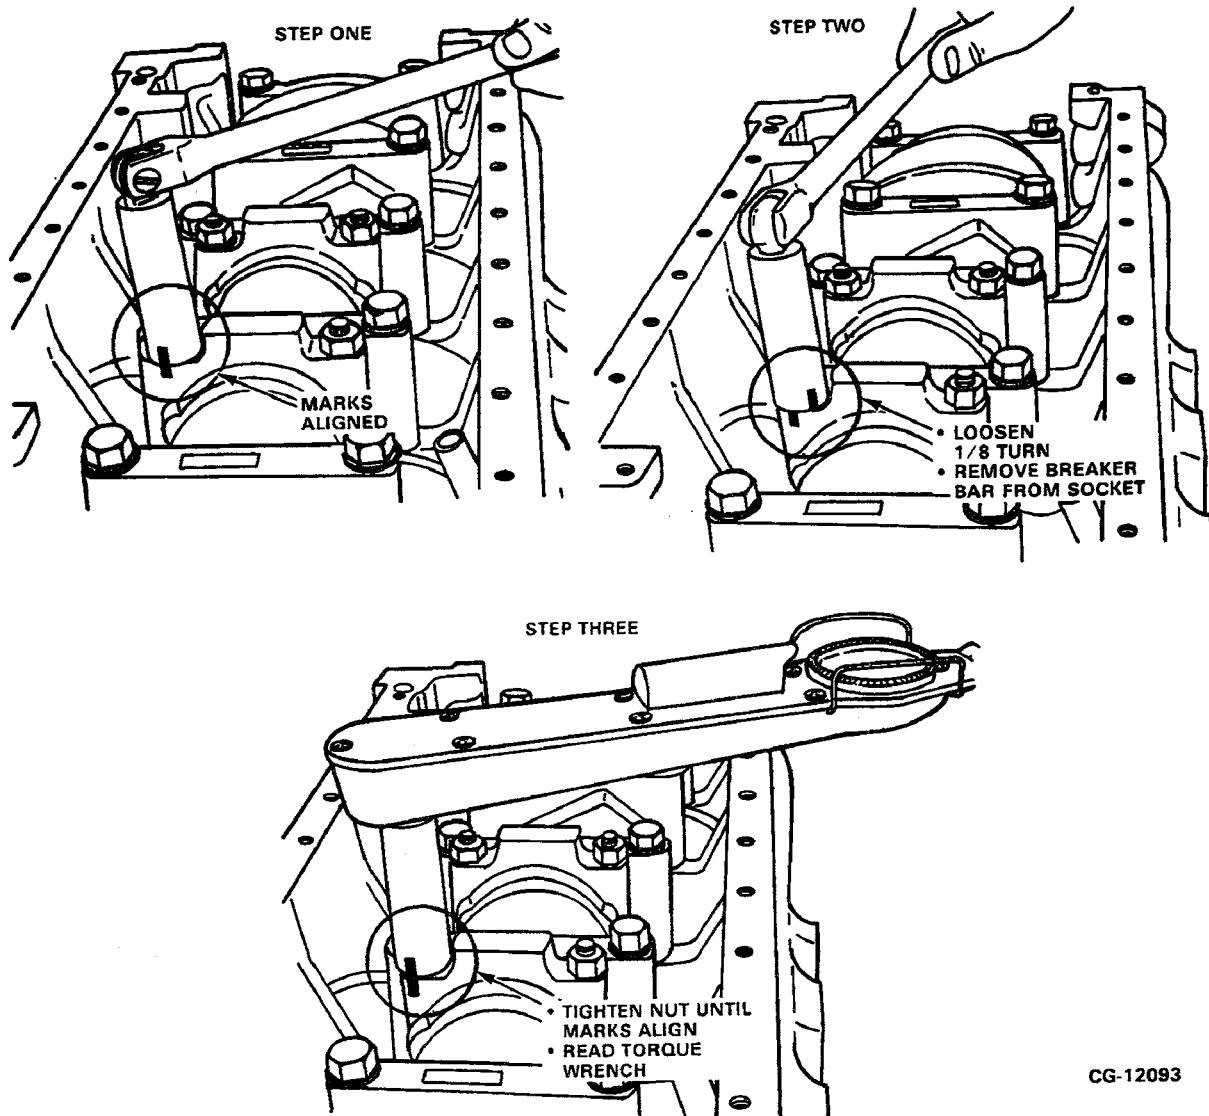

Figure 6.5. Check Bolt Torque
2. Verify connecting rod bolt torque on all connecting rods as follows: (Refer to **Figure 6.5**)